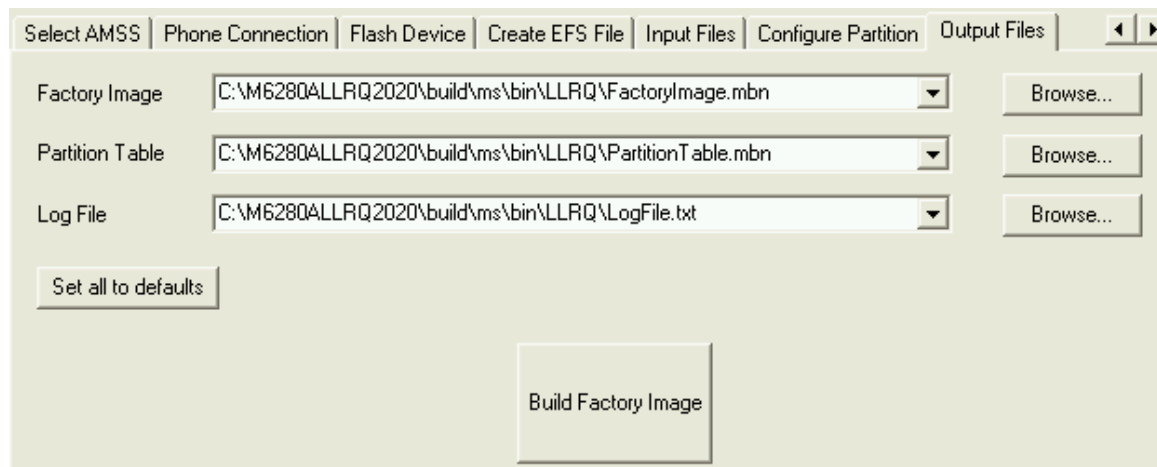

Figure 11-11 Factory image dialog
14. Under the Output Files tab, change the file names if desired. Click BUILD FACTORY IMAGE to build the output files (Figure 11-11).